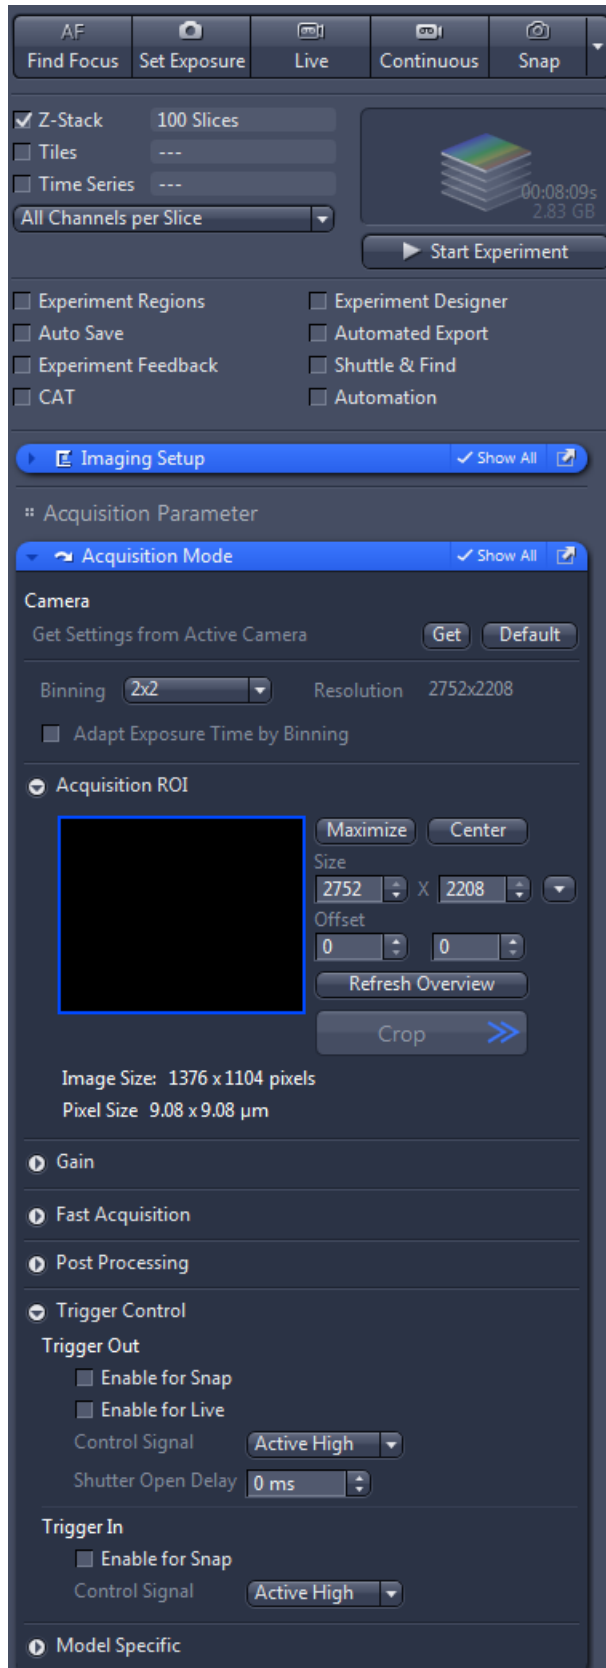

Fig. 20 "Acquisition" tab – "Acquisition mode" tool
- In the **Acquisition** tab, expand the **Acquisition mode** tool by clicking on the expander  (see Fig. 20).